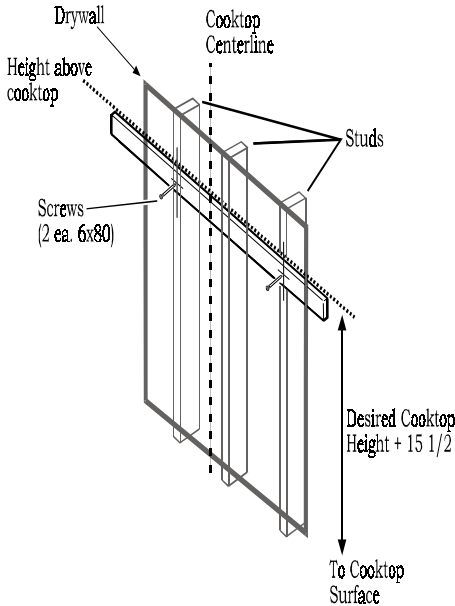

Figure 3
4. Find studs behind the drywall by tapping the wall or using a stud finder. Locate one stud on either side of the cooktop centerline to use for mounting the wooden bracket as shown in Figure 3.
7. Use 2-4 (6mm x 80 mm) screws to attach the bracket to the wall as shown in Figure 3. For support of longer hoods, use three or four studs as available. Countersink the heads to prevent interference with the hood.